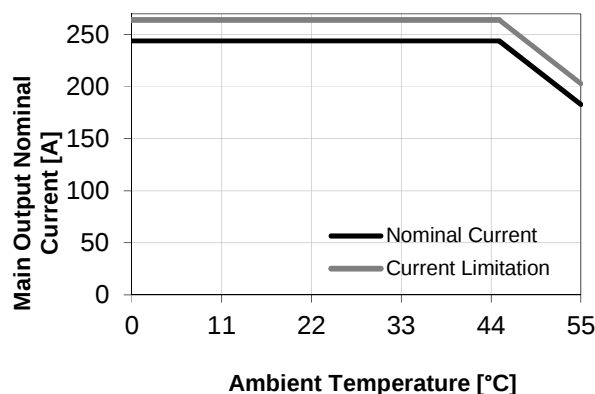

Figure 20: Derating on V_1 vs. T_a
2) see Figure 20 for linear derating > 45°C
The main output current limitation level I_{V1lim} will decrease if the ambient (inlet) temperature increases beyond 45 °C (see Figure 20). Note that the actual current limitation on V1 will kick in at a current level approximately 20A higher than what is shown in Figure 20 (see also chapter 10 for additional information).